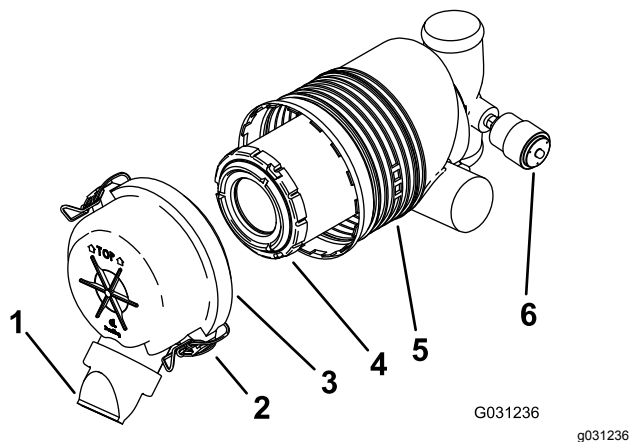

Figure 30
Important: Replace the air-cleaner filter only when the service indicator shows red (Figure 30). Changing the air filter before it is necessary only increases the chance of dirt entering the engine when you remove the filter.
5. Release the latches on the air cleaner and pull the air-cleaner cover off the air-cleaner body (Figure 30).
- If the service indicator is clear, install the air-cleaner cover with the dust cap oriented downward and secure the latches (Figure 30).
- Gently slide the filter out of the air-cleaner body (Figure 30).
- Carefully install the filter (Figure 30).
- Install the air-cleaner cover with the dust cap oriented downward and secure the latches (Figure 30).